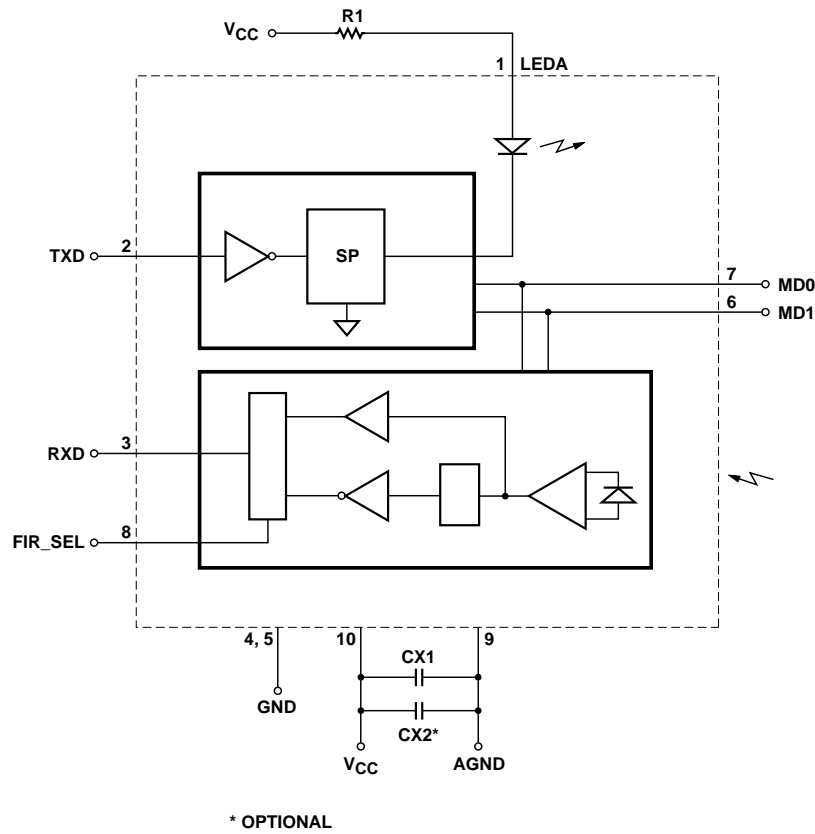

Figure 1. HSDL-2300 Application Circuit Diagram.
2. In environments with noisy power supplies, supply rejection can be enhanced by including CX2 as shown in Application Circuit Diagram, Figure 1.